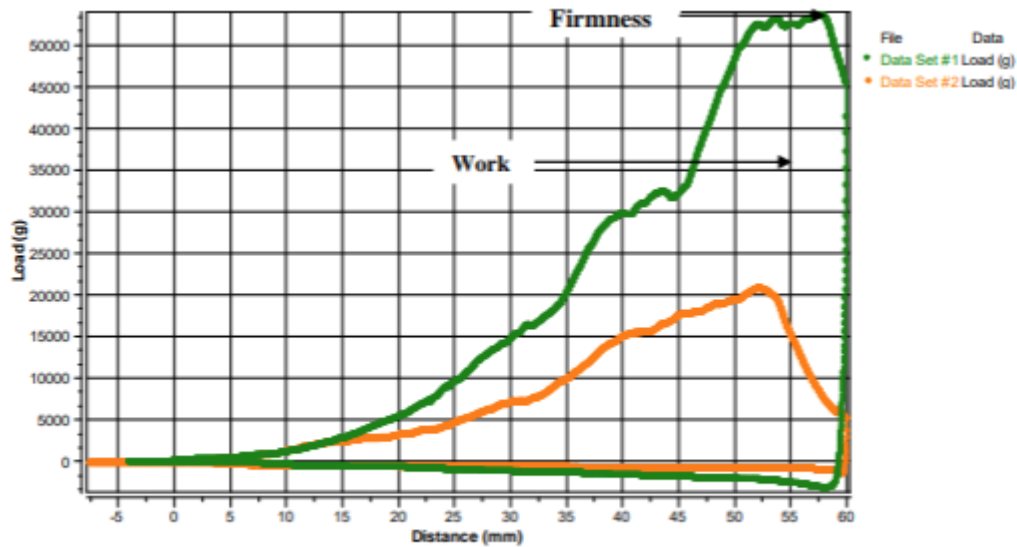

Figure 2
- Load vs. Distance Graph (Fig. 2):
- The area under the curve represents the energy required to break internal bonds (Fig. 2).